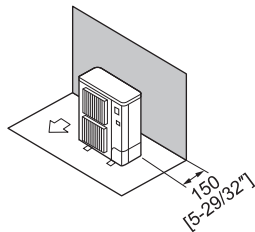

Fig. 12-2-2
Follow Fig. 12-2-2~7 to space individual PUMY-P-VKM6/YKM5(3) at the installation site.